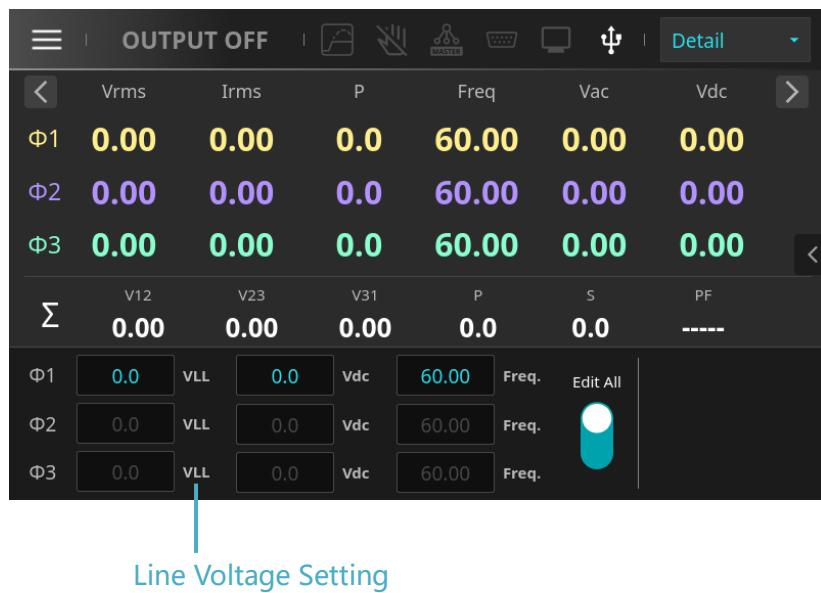

Figure 4-32: Three-Phase Mode Main Screen – Balanced Mode with Line Voltage Setting (Line)
6. Tap the Home button  to return to the main screen. As shown in Figure 4-32, the voltage and frequency across the three phases are equal, and the voltage is set to Line.